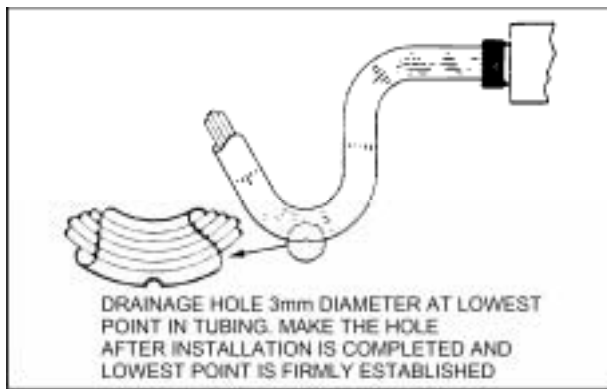

Figure 4-7 Drainage Hole in Low Point of Tubing
27. Avoid areas where wires will be subjected to damage from fluids. Wires and cables installed in aircraft bilges shall be installed at least 15cm from the aircraft centreline. If there is a possibility that the wire without a protective outer jacket may be soaked in any location, use plastic tubing to protect it. This tubing should extend past the wet area in both directions and be tied at each end if the wire has a low point between the tubing ends. The lowest point of the tubing should have a 3mm drainage hole as shown in Figure 4-7. Punch the hole in the tubing after the installation is complete and the low point definitely established. Use a hole punch to cut a half circle. Be careful not to damage any wires inside the tubing when using the punch. Tape (non-adhesive) used as a wrap around the wires and cables shall also have drainage holes at the low points.